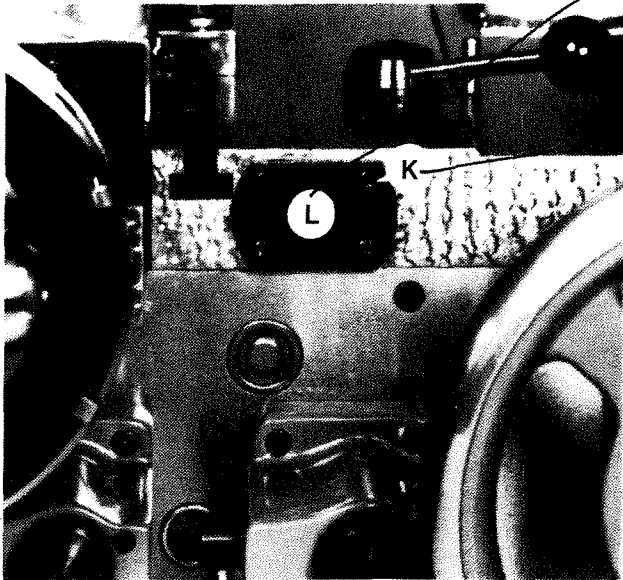

Figure 3.46 - Power Feed Drive Shaft Bearing
a) Remove four screws "K" and bearing "L", Figure 3.46 .
- a) Mount bearing "L" using four screws "K", Figure 3.46 .